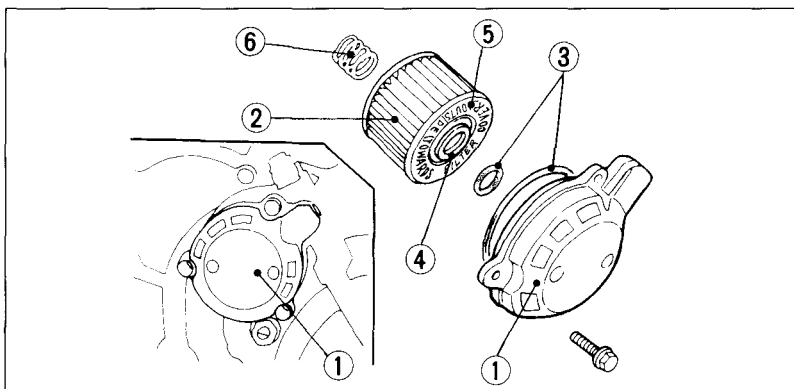

Fig. 4-13
(1) Oil drain plug
3. Remove the oil filter cover (Fig. 4-13) by removing the screws. Let the remaining oil drain out.